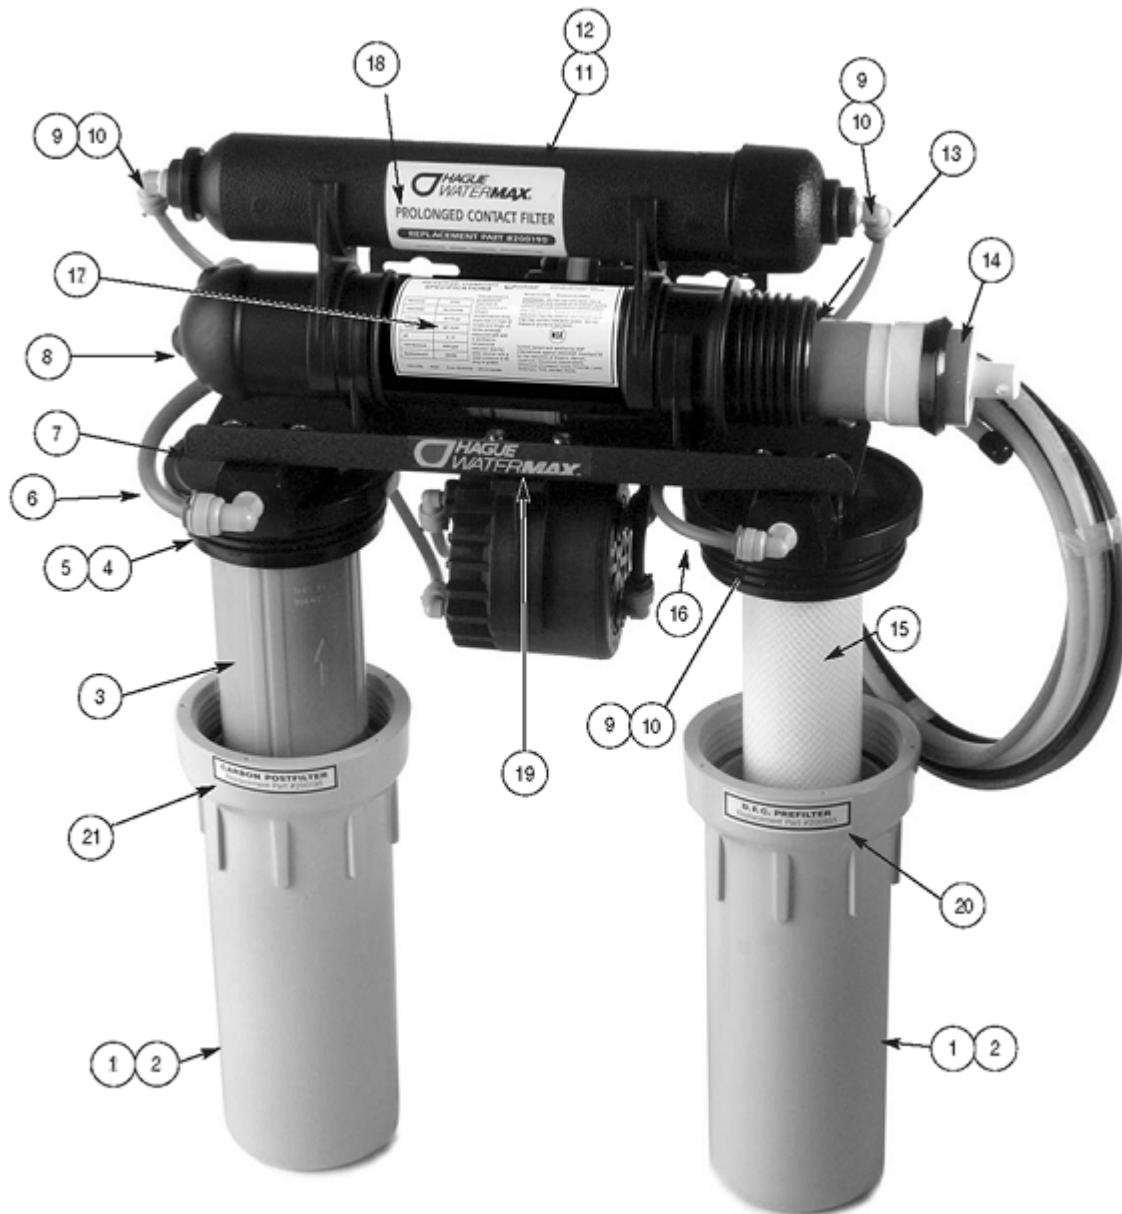

Figure 15: H3500 RO Assembly (Front View)
8. Insert the new membrane, making sure that the brine seal (See Figure 15) and the product water O-Rings are seated. Lubricate the brine seal and O-Rings with glycerin.